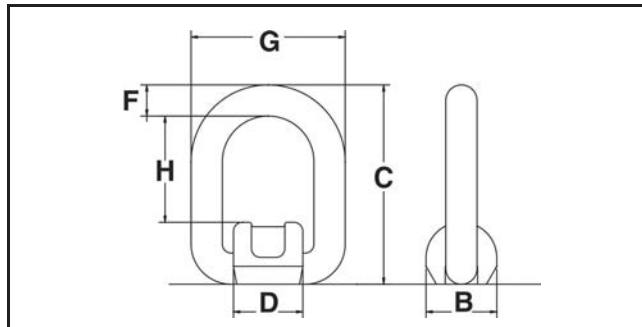

Figure 5
- E. Weld full length of "D" dimension on both sides of link base (Figure 5).